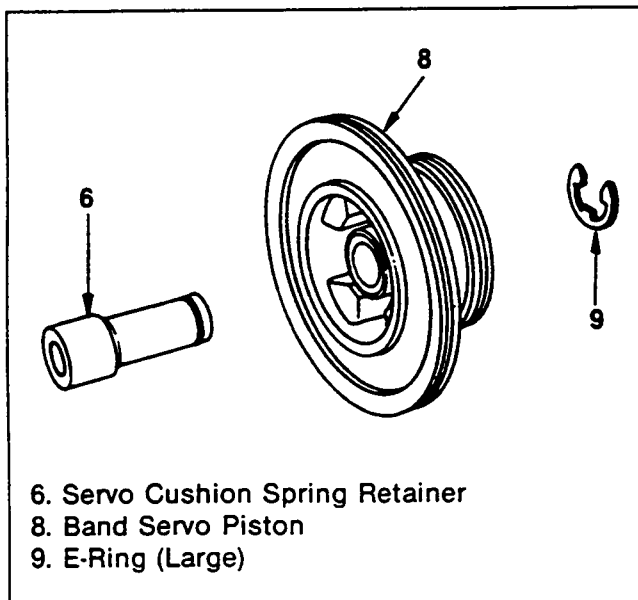

Figure 207. Servo Cushion Spring Retainer Removal
5. Remove the servo cushion spring retainer from the servo piston (figure 207).